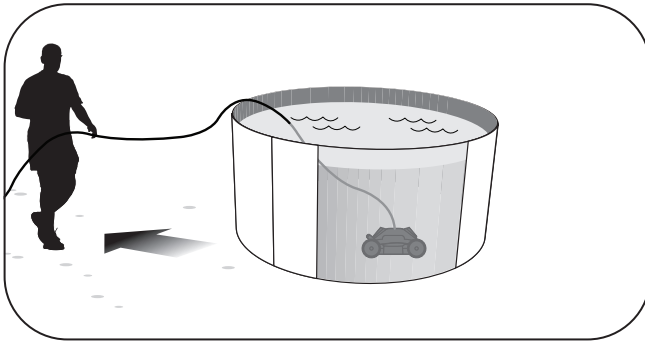

Figure 10. Bring Cleaner to Pool's Edge
1. Gently pull the floating cable to bring the cleaner within arm's reach (Figure 10).